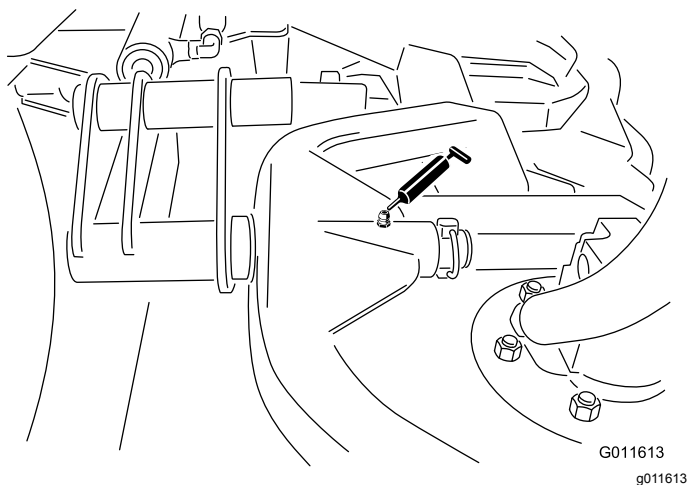

Figure 48
- Cutting unit carrier-frame pivot (1 each)—Figure 48